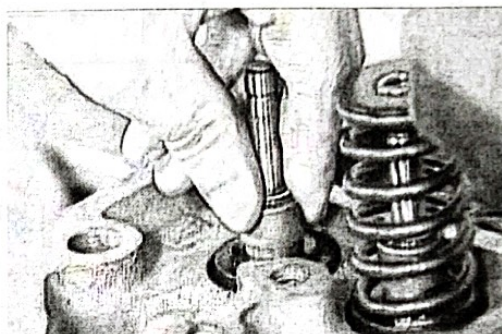

Fig3-18 Clean the Soot
5.3 Remove the cylinder head. Clean the soot on the valve. Replace the valve oil seal (see Fig3-18).